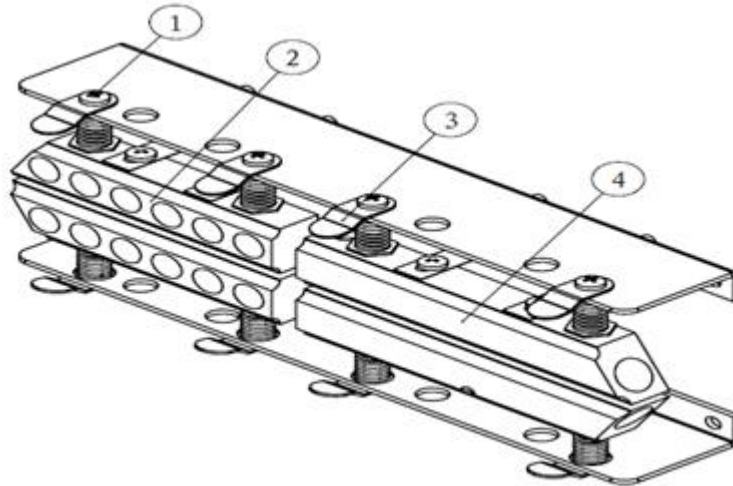

Figure 3
①. Adjusting fasten knob
②. foot stool
③. Fasten knob
④. Conveyor belt tension wheel adjustment screw
**Conveyor belt tension adjustment:** when the conveyor belt is too loose or too tight, adjusting conveyor belt tension wheel adjustment screw ④ of two sides (right rotation is to be tight, left rotation is to be loose), until the tightness of conveyor belt is appropriate.
**Conveyor worktable front and back fine adjustment:** when the conveyor worktable needs front and back adjustment, first to loosen adjustment fasten knob ① of both sides, then push or pull the worktable, tighten the two sides adjustment fasten knob ① until the position is suitable.
**Conveyor worktable up and down fine adjustment:** when the conveyor worktable needs up and down adjustment, first to loosen two sides fasten knob ③, then pull the worktable up or down, tighten the two sides fasten knob ③ until the position is suitable.
**B. Adjustment method of sealing parts (Figure 3)**
**Distance adjustment of Up and down heating block & cooling block:** because of different sealing material and thickness, each kind of product needs to adjust the distance between heating block and cooling block. The method is described as follows: right-handed rotation adjustment screw ① can increase the distance between up and down heating blocks and cooling blocks, Left-handed rotation adjustment screw ② can decrease the distance between up and down heating blocks and cooling blocks.
**Sealing belt replace method & adjustment:** after the heating block cool down, take down the protective cover, rotating the lifting piece ③ into 90° which on the heating block and cooling block in Figure 3, then loose the embossing wheel and the spring of middle pressure wheel, take down the leading belt, then push driven wheel in the direction of the heating block, and take down the sealing belt and replace with new sealing belt. Finally adjust the position back of driven wheel, heating blocks, cooling blocks and embossing wheel.